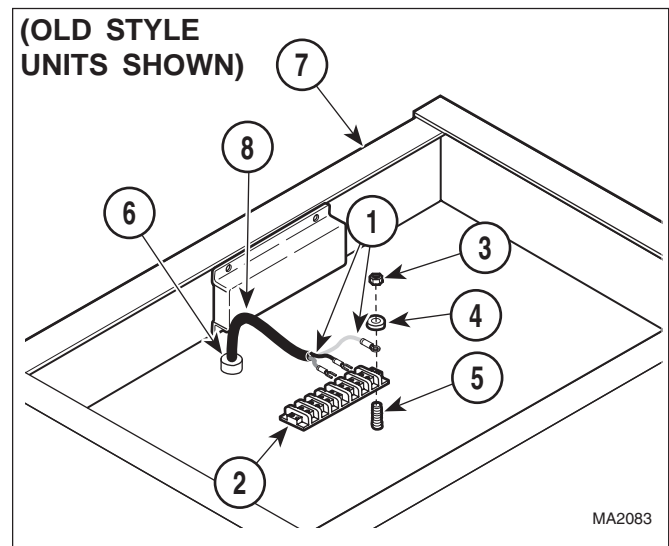
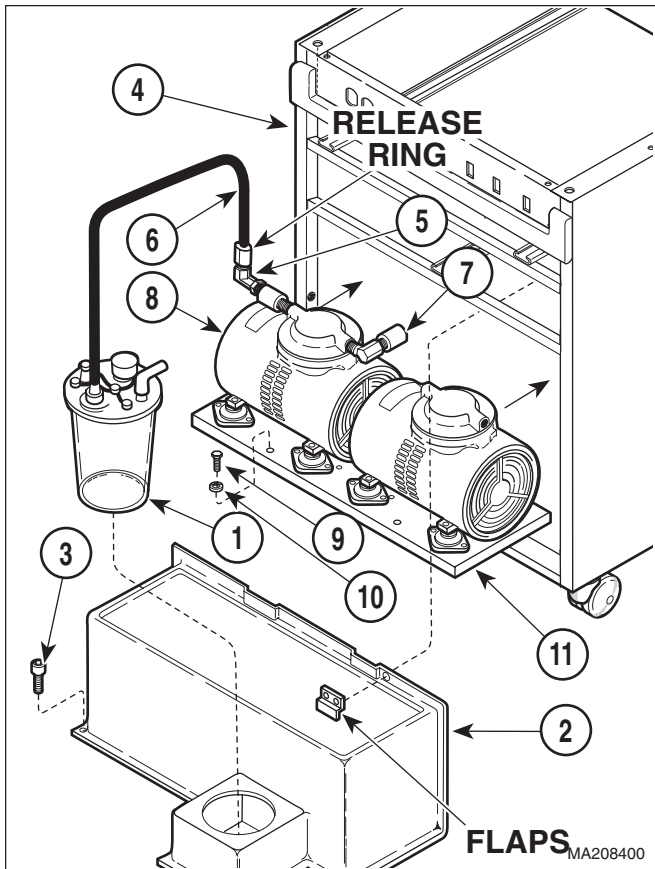

Figure 4-10. Disconnecting / Connecting Pressure Pump Assembly Wire Harness
Figure 4-11. Disconnecting / Connecting Pressure Pump Assembly
- (1) Remove control box cover (Refer to para 4.1).
- (2) Tag and disconnect two wires [EARLY UNITS ONLY] (1, Figure 4-10) from terminal block (2). On Newer Versions Unplug from PC Board.
- (3) (-001 & -002) Remove nut (3); then tag and disconnect wire (4) from ground stud (5). (-003) Disconnect from circuit board. Does not have a ground stud.
- (4) (-001 & -002) Remove strain relief bushing (6) from cabinet weldment (7) and wire harness (8). (-003) No strain relief. Cut cable tie and replace.
- (5) Pull wire harness (8) down through wire hole in cabinet weldment (7).
- (6) Remove vacuum bottle (1, Figure 4-11) from motor cover (2).
- (2) Position motor mount (11, Figure 4-11) on cabinet weldment (4) and secure with two washers (10) and screws (9).
- (3) Coat threads of elbow (5) and exhaust silencer (7) with pipe thread sealant.
- (4) Install elbow (5) and exhaust silencer (7) on pressure pump assembly (8).
- (5) Push tube (6) firmly into release ring of elbow (5).
- (6) Install motor cover (2) under two flaps on cabinet weldment (4) and secure with two finger screws (3).
- (7) Install vacuum bottle (1) in motor cover (2).
- (8) Push wire harness (8, Figure 4-10) up through the wire hole in cabinet weldment (7).
- (9) (-001 & -002) Install strain relief bushing (6) around wire harness (8), then insert strain relief bushing in wire hole of cabinet weldment (7). (-003) Snap in.
- (10) Install wire (4) on ground stud (5) and secure with nut (3).